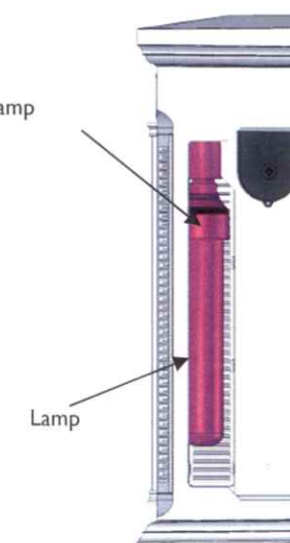

Fig.4
4. (see page 5, Fig. 4).
Remove the cartridge by gently pulling out of unit towards you (Fig.4).
Hold the cartridge body in your hand (fig.3) with the drive spool knob facing you. Slide the cartridge into place (Fig.4) making sure the drive spindle is engaged with the motor drive shaft (located towards top of unit) and the supply roll placed on the guide pin (located towards bottom of unit). Once cartridge is in place rotate the drive spool in the direction of the arrow shown until glue surface reaches the drive spool. This will require 7 to 8 rotations.
Remove old lamp by pushing upwards and turning clockwise on the base of the lamp (Fig.4).
Install new lamp by pushing upwards and turning counter clockwise on the base of the lamp (Fig.4).